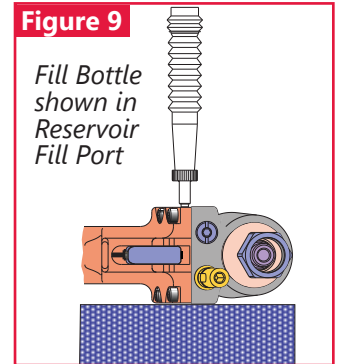

Figure 9
STEP 5: Install Fill Bottle in Reservoir Fill port. (Figure 9)